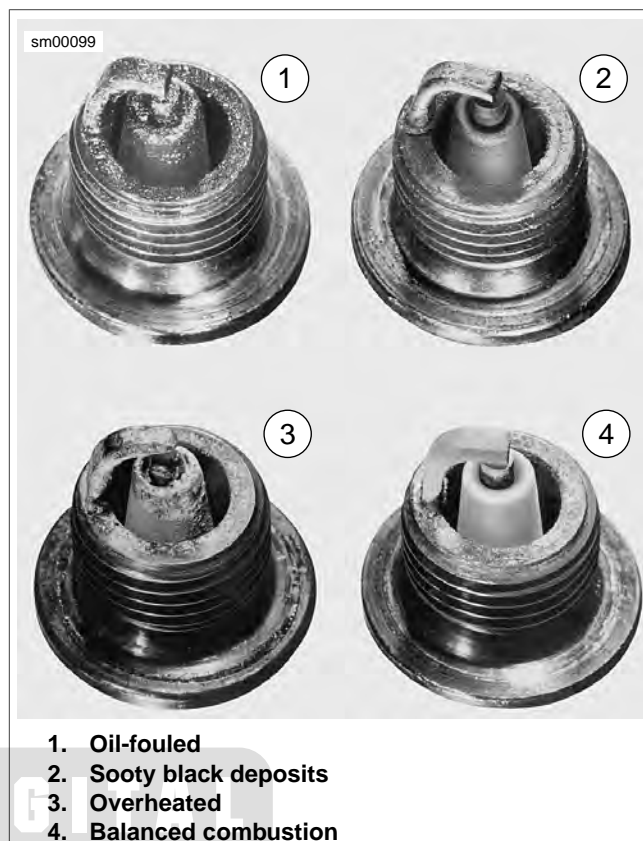

Figure 1-35. Typical Spark Plug Deposits
8. See Figure 1-35. Compare your observations of the plug deposits with the descriptions provided below.
- a. A wet, black and shiny deposit on plug base, electrodes and ceramic insulator tip (1) indicates an oil fouled plug. The condition may be caused by one or more of the following: worn pistons, worn piston rings, worn valves, worn valve guides, worn valve seals, a weak battery or a faulty ignition system.
- b. A dry, fluffy or sooty black deposit (2) indicates an air-fuel mixture that is too rich and/or engine idling for excessive periods.
- c. A light brown, glassy deposit (3) indicates an overheated plug. This condition may be accompanied by cracks in the insulator or by erosion of the electrodes and is caused by an air-fuel mixture that is too lean, a hot-running engine, valves not seating or improper ignition timing. The glassy deposit on the spark plug is a conductor when hot and may cause high-speed misfiring. A plug with eroded electrodes, heavy deposits or a cracked insulator must be replaced.
- d. A plug with a white, yellow, tan or rusty brown powdery deposit (4) indicates balanced combustion. Clean off spark plug deposits at regular intervals.